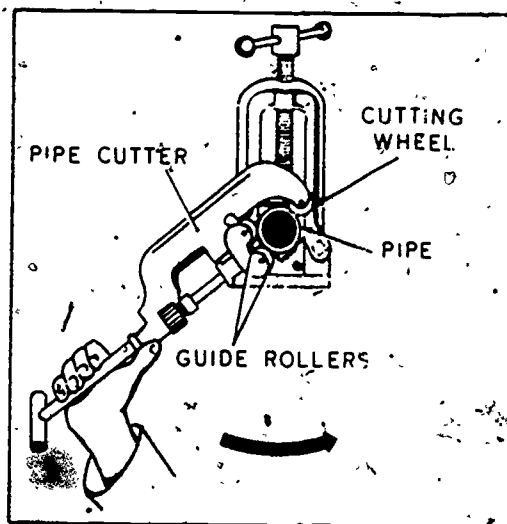

Figure 4-22. Cutting a pipe with a pipe cutter.
**Cutting steel pipe manually.** After you have measured and marked the steel pipe in accordance with the instructions given in Volume I, place it in a pipe vise, where it can be held for the cutting operation. A pipe inserted in a pipe vise, ready to be cut with a pipe cutter or hacksaw, is illustrated in figure 4-21. A pipe cutter ready to make the first turn on the pipe to be cut is illustrated in figure 4-22. To cut a steel pipe with a pipe cutter, open the jaws of the cutter by turning the handle counterclockwise. Now, place the pipe cutter around the pipe on the mark where the pipe is to be cut. Center the cutter so that the cutting wheel is on the mark. Close the jaws of the pipe cutter lightly against the pipe by turning the handle clockwise. After the wheels contact the pipe, rotate the